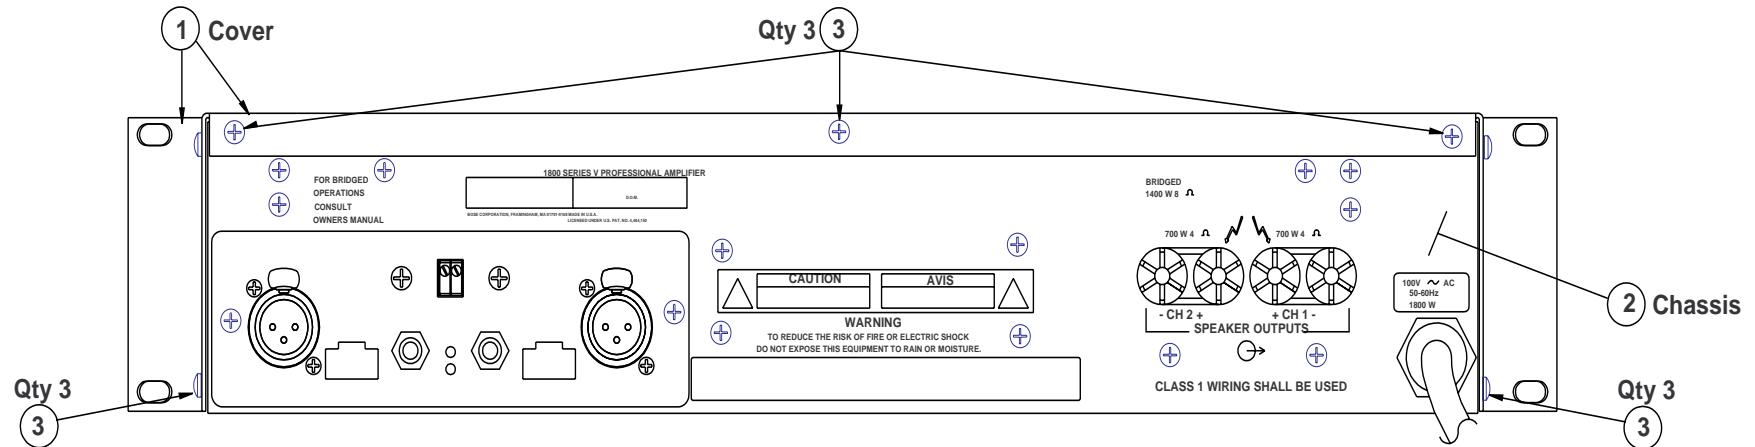

Figure 3. Cover Attaching Hardware
<p>4.3 Connect the power supply cables back to transformer (4) terminals 6-11.</p> <p>4.4 Replace the cover (1) using procedure 2.</p> <p>Note: Refer to Figures 3, 4 and 6 for the following procedures.</p> <p>5. Regulator Board Removal</p> <p>Note: The regulator board is not used in the 1600VI amplifier.</p> <p>5.1 Remove the cover (1) using procedure 1.</p> <p>5.2 Note the wiring configuration and disconnect cables WL1-WL3 and WL5-WL7 from the power supply board (7) terminals. This will allow easier access to the regulator board (8). These terminals are located directly over the regulator board in the 1800VI.</p> <p>5.3 Disconnect the cables from the terminals of the line filter (10) that are next to the regulator board.</p> <p>5.4 Remove the transformer (4) using procedure 11. This will allow easier access to the standoffs that secure the regulator to the power supply board.</p> <p>5.5 Unsnap the regulator board from the nylon standoffs mounted on the power supply board. This will also disengage the regulator board from the power supply J1 connector.</p> <p>6. Regulator Board Replacement</p> <p>6.1 Line up and insert the pins of the regulator board (8) J1 connector (solder side) into the power supply (7) J1 connector.</p>	<p>6.2 Carefully line up the holes of the regulator board with the nylon standoffs mounted on the power supply board. Snap three corners of the board onto each nylon standoff.</p> <p>6.3 Replace the transformer (4) using procedure 12. Refer to Figures 7 and 16 for correct wire locations.</p> <p>6.4 Connect the cables from the line cord (31) (for 240V, line cord and ground) to the line filters terminals (10).</p> <p>6.5 Connect the cables to power supply board (7) terminals WL1-WL3 and WL5-WL7. These terminals are directly over the regulator board.</p> <p>6.6 Replace the cover (1) using procedure 2.</p> <p>Note: Refer to Figures 5 and 6 for the following procedures.</p> <p>7. Power or Sequence Switch Removal</p> <p>7.1 Remove the cover (1) using procedure 1.</p> <p>7.2 Unsolder the three tabs that secure the power switch board (9) to the switch.</p> <p>7.3 Push the switch through the chassis (2) front panel.</p> <p>8. Power or Sequence Switch Replacement</p> <p>8.1 Push the switch into the chassis (2) front panel.</p> <p>8.2 Solder the power switch board (9) to the switch terminals. For 100V and 120V units, make sure the LED is lined up with the panel hole labeled "Standby". For 240V units, make sure the board's LED is aligned underneath the "ON" position icon.</p> <p>8.3 Replace the cover (1) using procedure 2.</p>